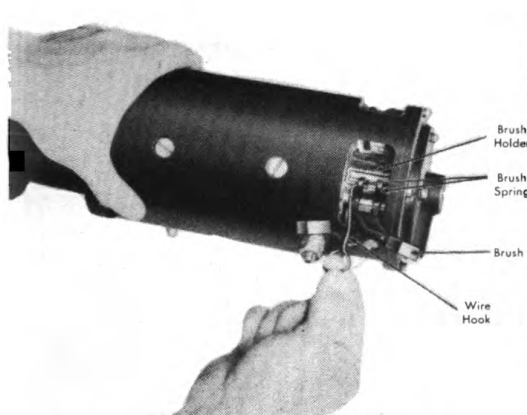

Figure 247. Lifting the Brushes out of the Holder.
C. Lift the brushes out of the holders as shown in Figure 247.
2. Lift the brushes out of the holder. See Figure 247.